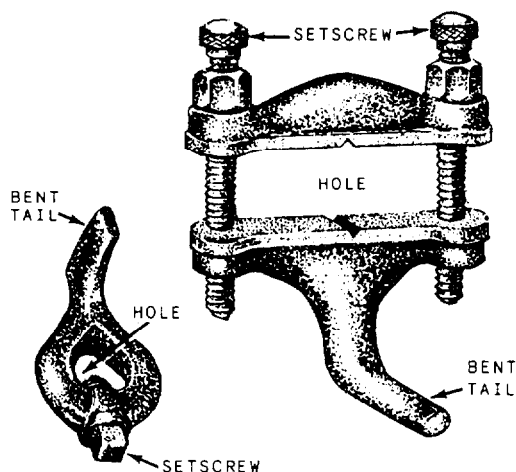

Figure 9-12.—Lathe dogs.
The common lathe dog, shown at the left in figure 9-12, is used for round work or work having a regular section (square, hexagon, octagon). The piece to be turned is held firmly in the hole (A) by the setscrew (B). The bent tail (C) projects through a slot or hole in the driving plate or faceplate so that when the tail revolves with the spindle it turns the work with it. The clamp dog, illustrated at the right in figure 9-12, may be used for rectangular or irregularly shaped work. Such work is clamped between the jaws,